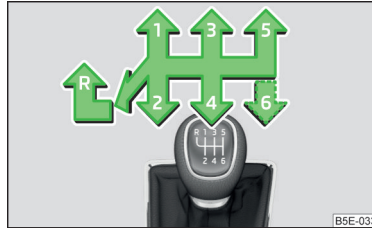

Fig. 133
On the shift lever, the individual gear positions are shown **» Fig. 133**.
- Move the shift lever fully to the left and then forward into **R** position **» Fig. 133**.